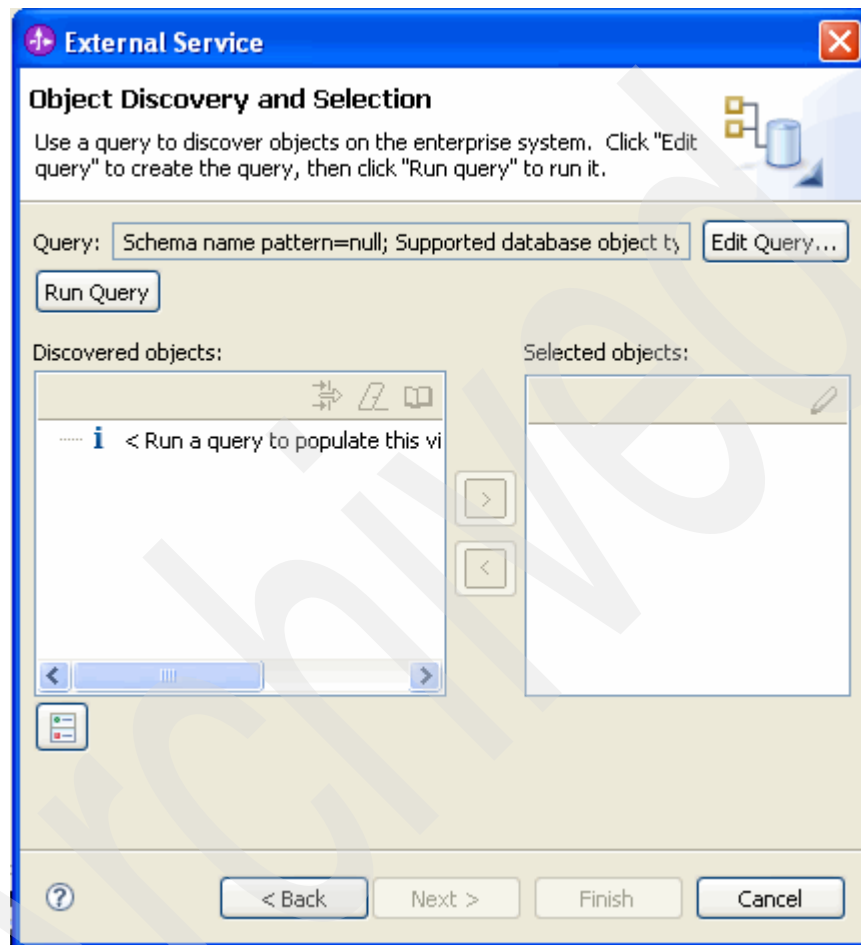

Figure 5-6 Object discover and selection
8. If all the data is entered correctly and no other application is connected to the database, you should move successfully to the **Object Discovery and Selection** dialog box, shown in Figure 5-6. Click **Edit Query**.